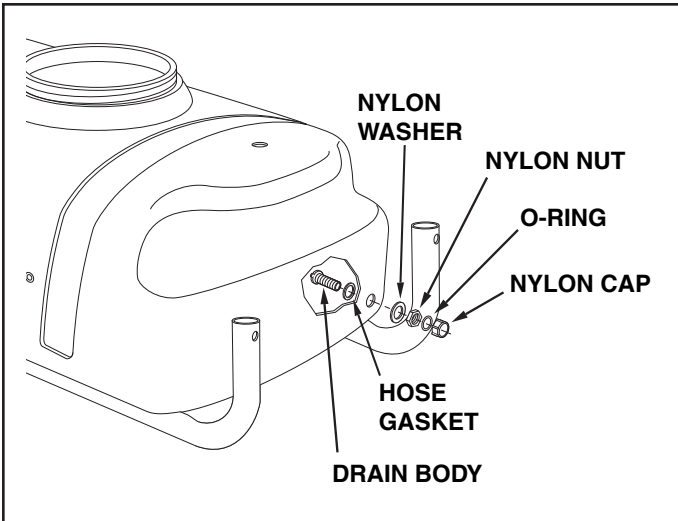

FIGURE 4
- Install the drain in the rear of the tank as shown in figure 4. Place a 3/4" garden hose gasket onto the drain body and insert the drain body out through the hole in rear of the tank. Outside the tank, assemble the nylon washer, then the nylon nut onto the drain body. Tighten the nut securely enough to prevent leaking, being careful not to damage the plastic parts. Place the O-ring inside the nylon cap and screw the cap onto the end of the drain body. See figure 4.